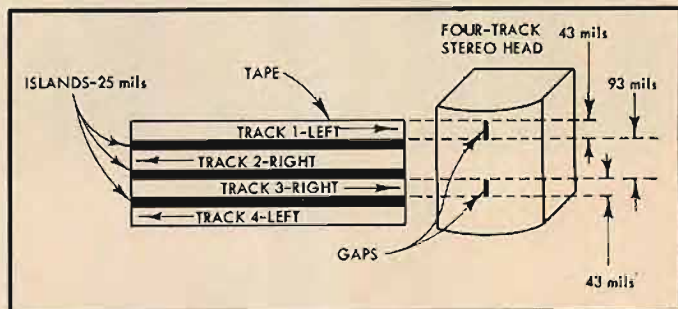

Fig. 2. Four track stereo tape.
The confusion began with the advent of stereo, which employed tape as a popular medium before it made widespread use of disc and radio. Initially, stereo also operated on a half-track basis, as shown in Fig. 2, with the upper track being used for one channel and the lower track for the other. Half-track stereo went through two phases. First, a staggered head arrangement, as in (B) of Fig. 1, was used; that is, two heads were employed, spaced about 1.25-in. apart. The gap of one head spanned the upper track, while the gap of the other head spanned the lower track. But this was a cumbersome arrangement, and after a while the in-line head, (C) of Fig. 1, made its appearance, consisting actually of two
Hence quarter-track stereo (or four-track stereo as it is often erroneously called) was a natural development. Figure 2 shows the quarter-track format. The tracks numbered 1 and 3 are used when the tape is operated in one direction, and tracks 4 and 2 are used in the other direction. While quarter-track stereo solved the problems of convenience and of tape cost per minute of recording, it raised other problems. The narrower track means less signal is presented to the tape playback amplifier, making it more difficult to achieve a good signal-to-noise ratio. Also, the narrower track means there is less chance for tape irregularities to average out, resulting in greater likelihood of such disturbances as dropouts (sudden, brief drops in volume). However, improvements in heads and in tape have gone a long way toward coping with these problems.